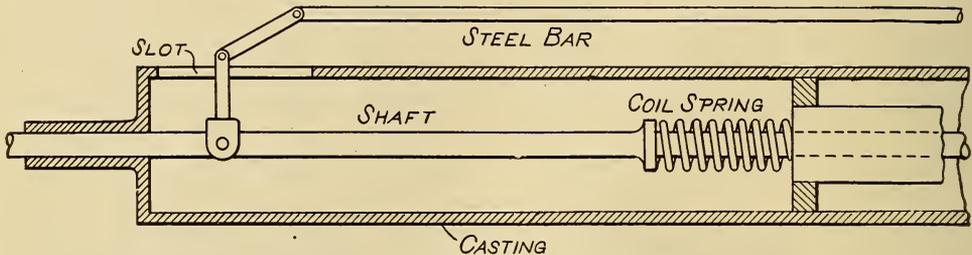
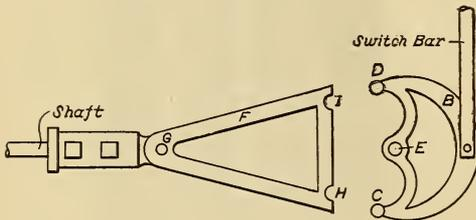

FIG. 1. MAGNET BAR AND SHAFT FOR OPERATING TRACK SWITCH.
FIG. 2. CAM FOR OPERATING TRACK SWITCH.
shown in Fig. 1. In this casing is a shaft which moves longitudinally. Attached to this shaft is a lug to which a longitudinal steel bar is fastened by a toggle joint as shown. When the magnet under the car passes over the bar the latter is drawn up, if the magnet is energized, and the shaft thereby pulled over toward the right to operate the switch cam shown in Fig. 2. A coil spring shown in Fig. 1 normally holds the shaft to the left extremity of its throw.
Upon examination of Fig. 2 it will be seen that the shaft operates to move the triangular member (F) forward and